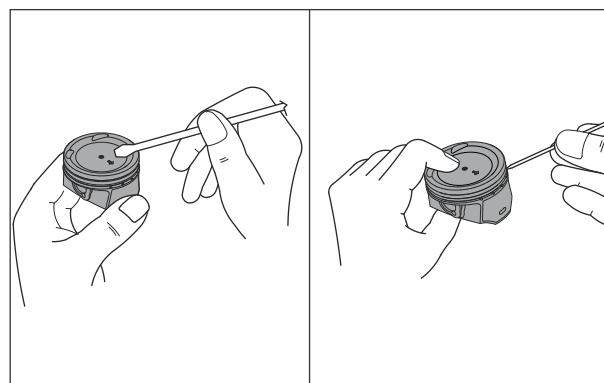

Fig. 3.89
- Decarbonise the piston and piston ring grooves. After cleaning the grooves, fit the rings and rotate them in their respective grooves to make sure that they rotate freely. (Fig. 3.89)